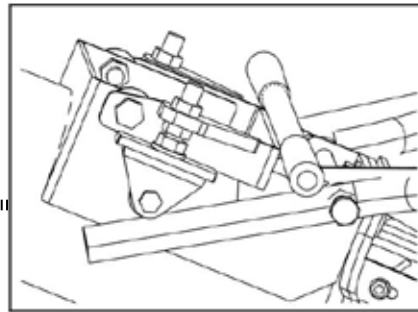

Figure 1.6
5. Check to make sure the hopper is in the up position (Figure 1.6)
14. Make sure the collapsible hopper is in the up position for storage (Figure 1.6).
11. Lock collapsible hopper in the up position (Figure 1.6).
21. Make sure the collapsible hopper is in the up position for storage (Figure 1.6).
7. Place the collapsible hopper in the up position (Figure 1.6)